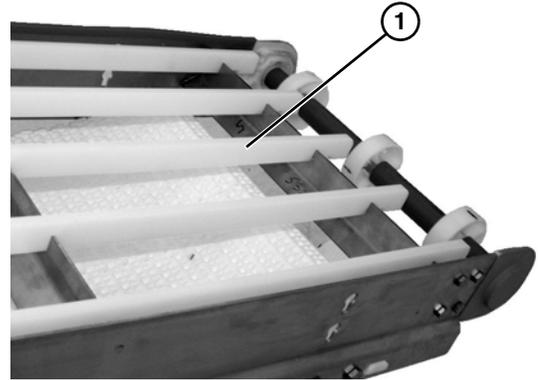

Figure 35
2. Remove worn wear strips (**Figure 35, item 1**) from frame notches.